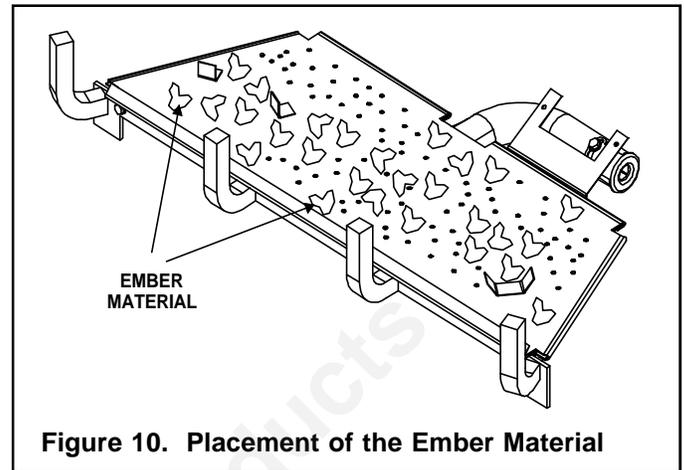

Figure 10. Placement of the Ember Material
- Place a dime size piece of glowing ember material near port holes in burner top, sides and front (see Figure 10).